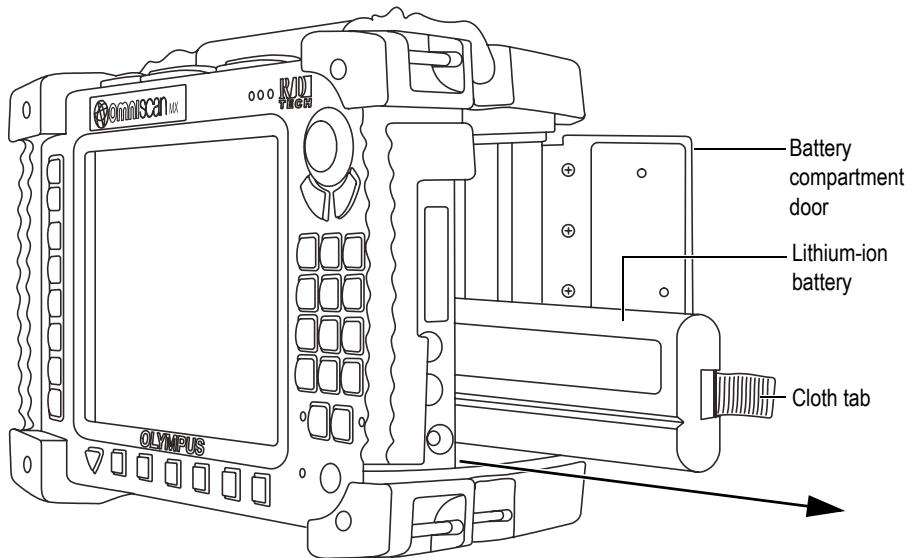

Figure 8-3 Removing the lithium-ion battery
2. If there is already a battery in the compartment, pull the cloth tab to remove the battery (see Figure 8-3 on page 94).